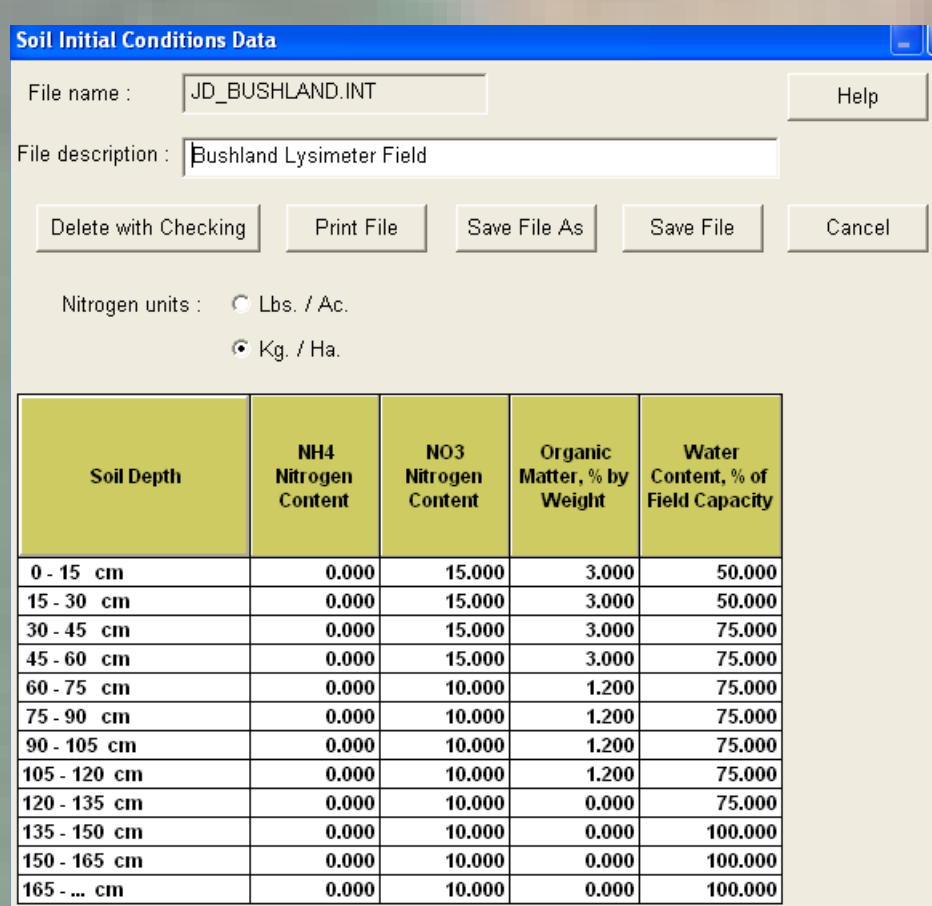

Figure 3. Soil initial conditions data.
- Initial conditions of soil water content and nitrogen (Figure 3)